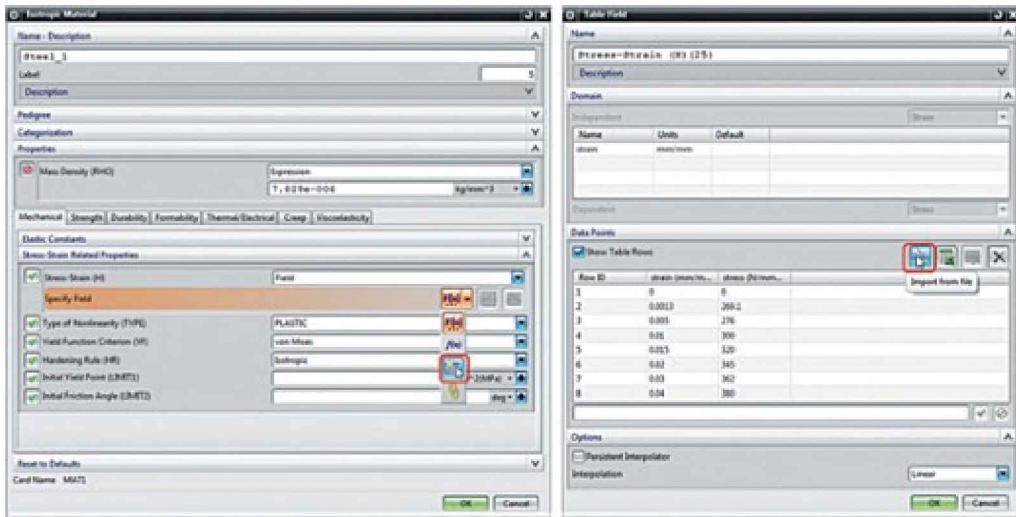

Figure 2.18. Specifying nonlinear material properties
In the *Isotropic material* dialog box, in the *Mechanical* tab, in the *Stress-Strain Related Properties* group, specify the following (Figure 2.18):
- Under *Define Field*, click *Table Constructor*. In the *Table Field* dialog box, specify tabular data for the material strain curve (Figure 2.18):